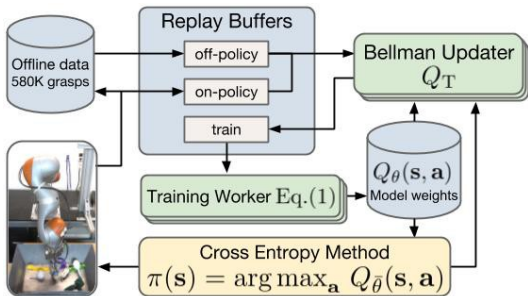

Figure 2: Distributed Reinforcement Learning infrastructure for QT-Opt.
- Large Dataset and Network (See Fig. 2)